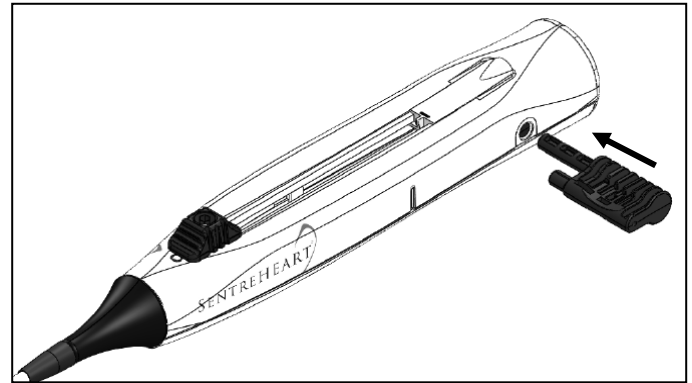
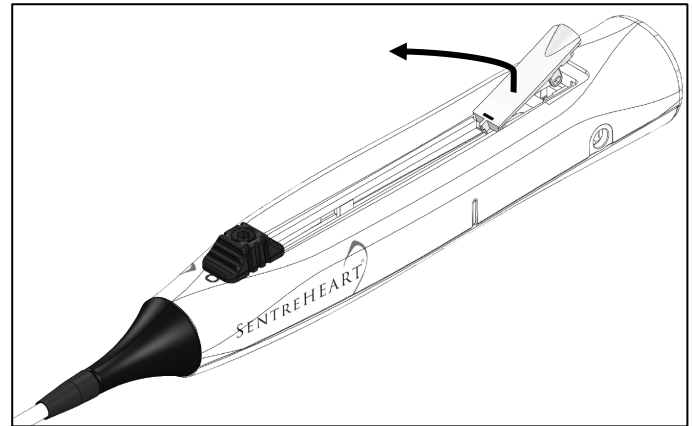
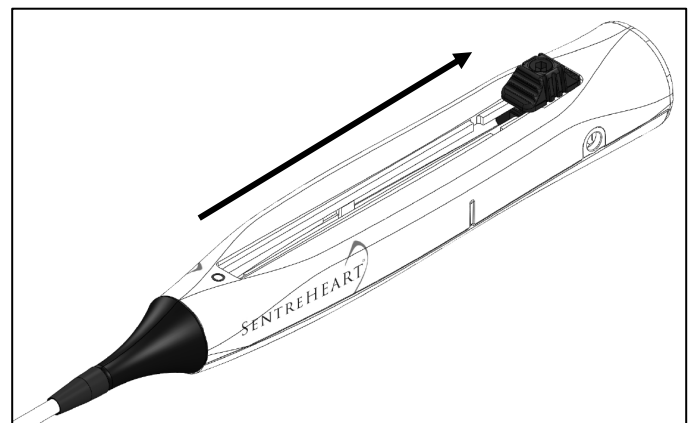

Figure 6 Suture Release Tab inserted into Snare Release Actuator
Figure 7 Lift and Remove Restrictor Plate
Figure 8 Completely Retract Snare Actuator Slide
21. If device cannot be freed from anatomical constraints, grasp the Suture Release Tab and fully insert it into the Snare Release Actuator opening on the side of the handle, as shown in Figure 6, to release the snare loop. Continue to hold the tip against tissue, remove the restrictor plate as shown in Figure 7. Finally, retract the snare actuator slide completely proximal as shown in Figure 8.
NOTE: Ensure the restrictor plate has been fully removed (refer to Figure 7). If necessary, re-insert suture release tab into the snare release actuator.